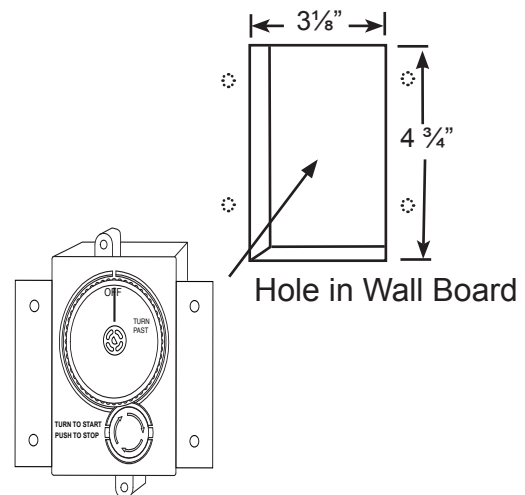

Fig. 3 Installing ESTOP gas timer into wall.
Step 4: Place the ESTOP into the hole and mark the mounting hole brackets. Ensure assembly is centered and level, then drill four $\frac{1}{4}$ " holes in the wall for mounting. See Fig. 3.